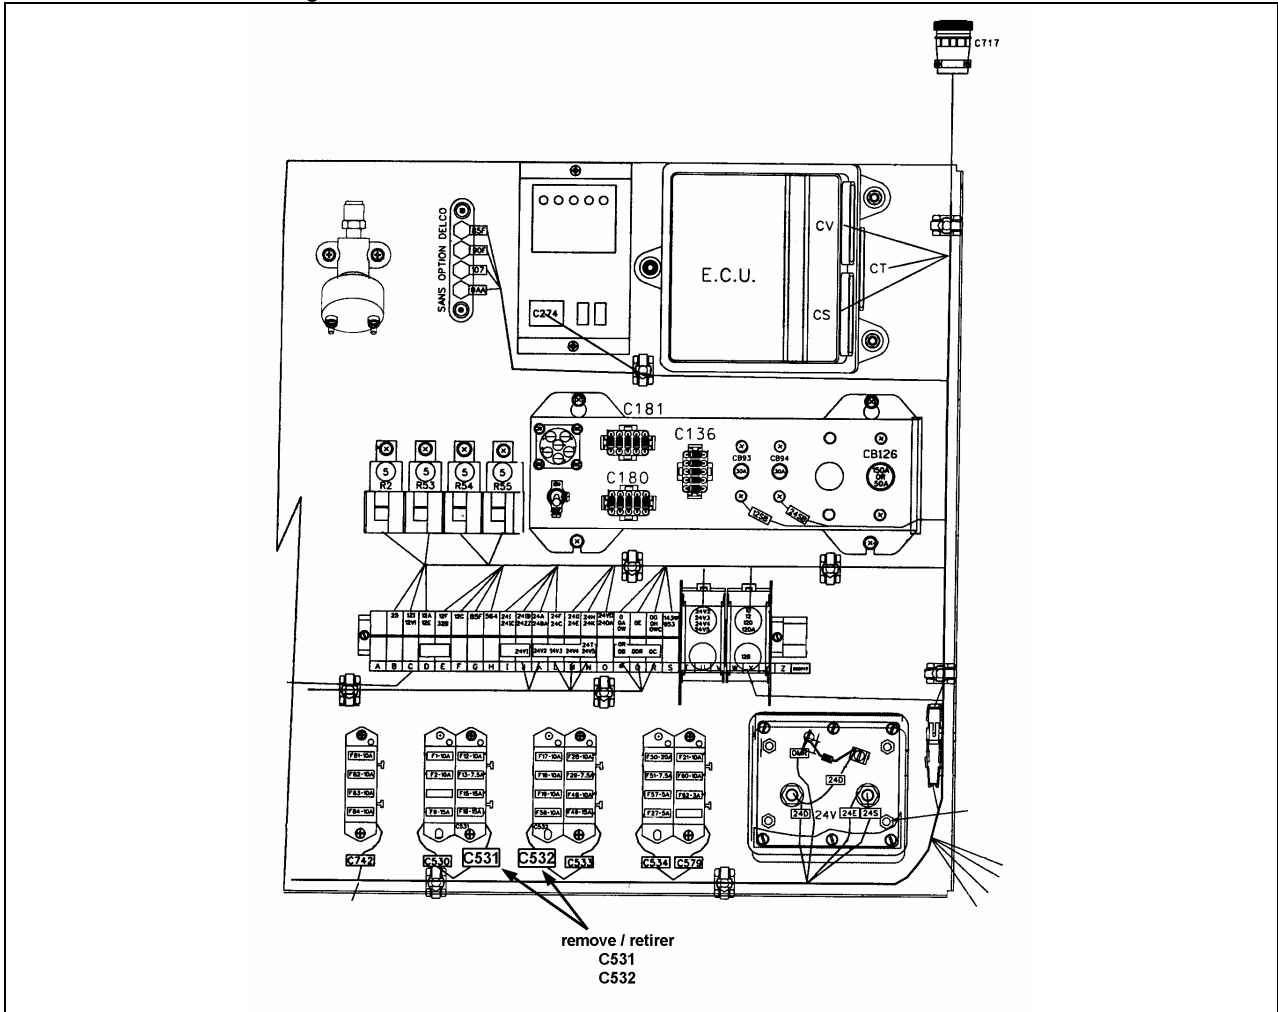

FIGURE 3: LOCATE FUSE HOLDERS INSIDE MAIN POWER COMPARTMENT (H3 FROM 4-4758 UP TO 4-4801)
**H3 SERIES, from V-4758 up to 4-4801:** Locate connector C531 & C532 (figure 3) inside the main power compartment.